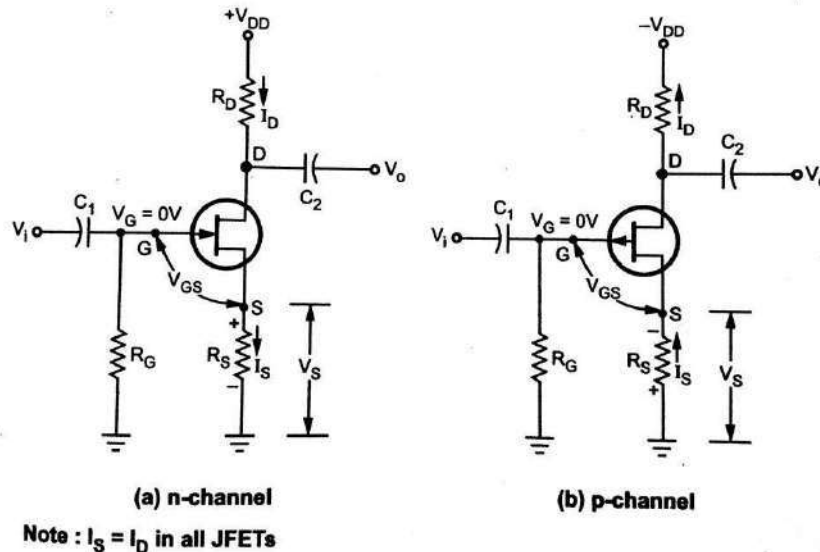

Fig 1: self-bias circuit for JFET
- The condition requires a negative V_{GS} for an n-channel JFET and a positive V_{GS} for p-channel JFET. This can be achieved using the self-bias arrangement shown in Fig.1
- For the n-channel FET in Fig. 1(a), I_S produces a voltage drop across R_S and makes the source positive with respect to ground. Since $I_S = I_D$ and $V_G = 0$, then $V_S = I_S R_S = I_D R_S$. The gate to source voltage is, $V_{GS} = V_G - V_S = 0 - I_D R_S = -I_D R_S$
- For the p-channel FET in Fig. 1(b), I_S produces a voltage drop across R_S and makes the source negative with respect to ground. Since $I_S = I_D$ and $V_G = 0$, then $V_S = -I_S R_S = -I_D R_S$ the gate to source voltage is $V_{GS} = V_G - V_S = 0 - (-I_D R_S) = +I_D R_S$
- In the following D.C. analysis, the n-channel JFET shown in Fig. 1(a) is used to for illustration.